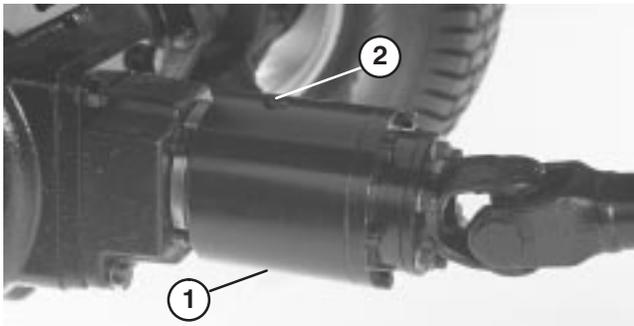

Figure 49
3. Rotate clutch so check plug is positioned downward (Fig. 49).